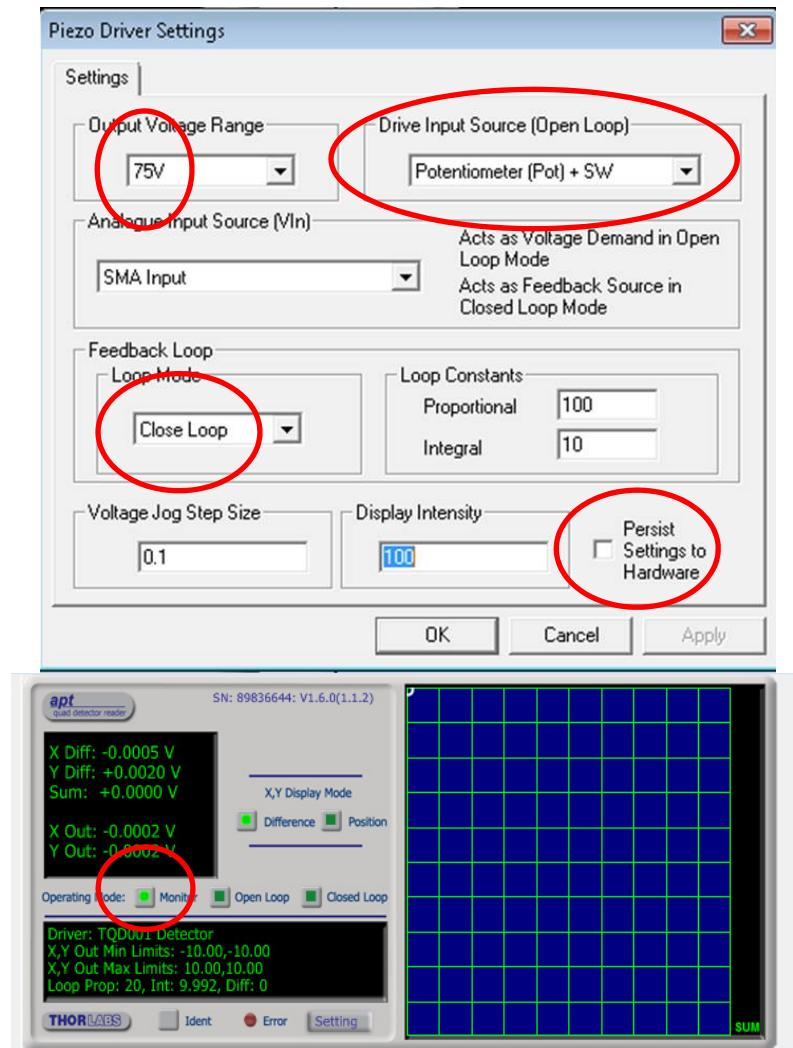

Figure 5 Piezo Controller (KPZ101) Settings Window and PSD Aligner (KPA101) Settings Window
8. After the strain gauge controllers have been set to zero, you can set the piezo controllers to closed loop mode. Select each of the piezo controller Setting windows and adjust the settings as shown in Figure 5. Make sure that the “Persist Settings to Hardware” flag is set; this will save the configuration to the controller’s EEPROM.